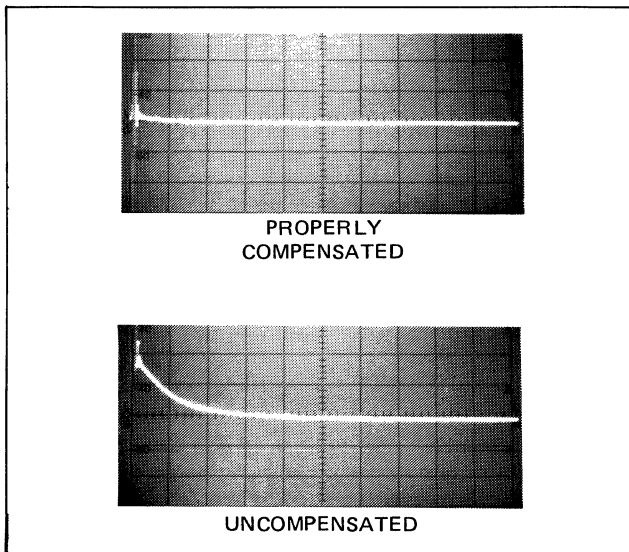

Figure 3-35. Probe Compensation.
- h. Adjust the probe so that its response is flat over the entire frequency range (Figure 3-35).